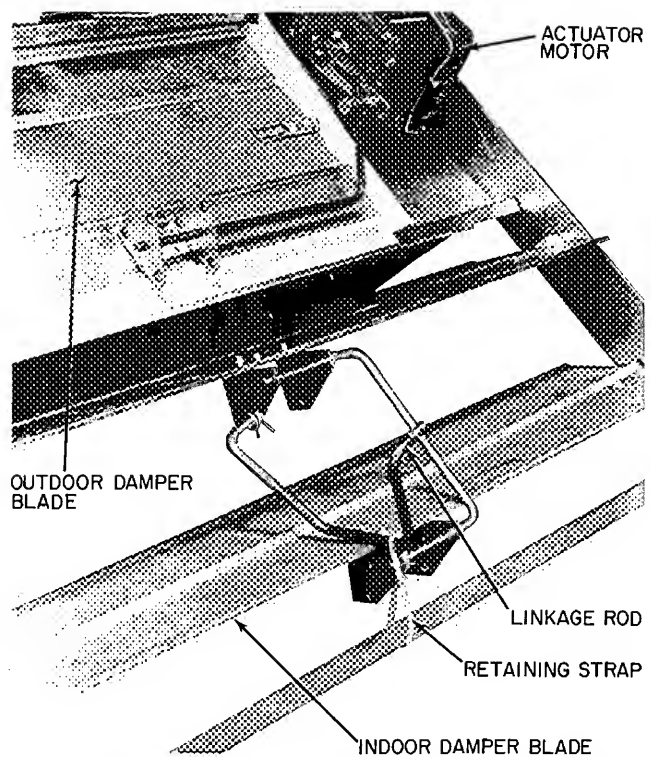

Fig. 18 — Removing Indoor Blade Linkage Retaining Strap (004,005,006,007 Units)
3. Remove indoor blade linkage retaining strap (Fig. 18). Place washer on linkage rod supplied with accessory. Place linkage rod into hole "B" of outdoor damper blade. Secure rod with blue retaining clip provided.